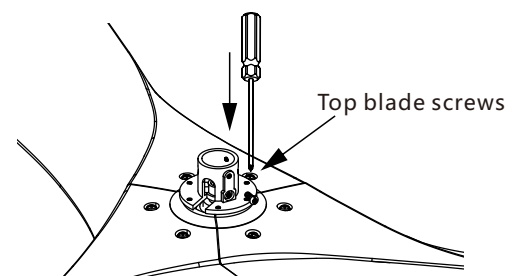

Figure 7b
3. Flip the fan again and tighten the top blades screws completely.(See Fig.7b)